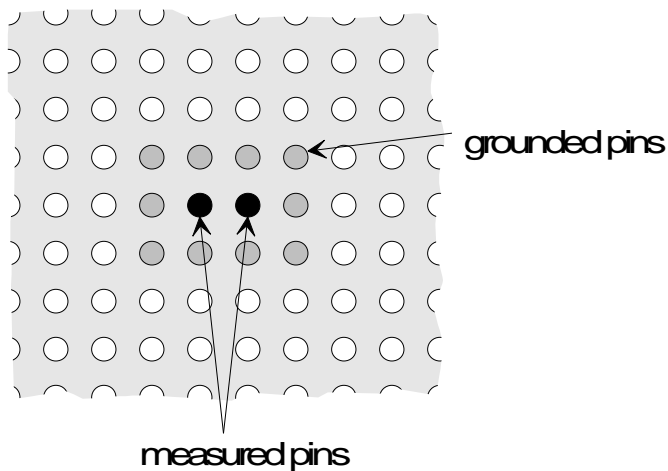

Figure 2 - Bandwidth measurement
1. The bandwidth for the LGA socket was determined from a loop-thru measurement on two adjacent pins. The nearest row of pins was grounded (see figure 2). **The 1-dB bandwidth was 17.9 GHz,** please see page 10 of the Appendix.